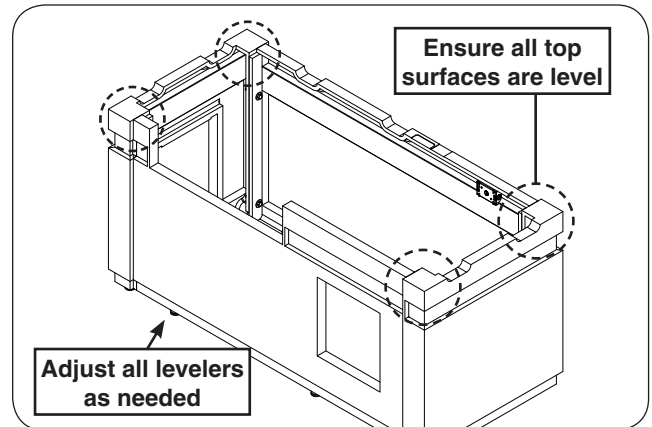

Fig. 8-2 Level assembly
6. Use the level to ensure the top surfaces of the assembly are level. The levelers at the bottom of the island may be adjusted as needed. See Fig. 8-2.